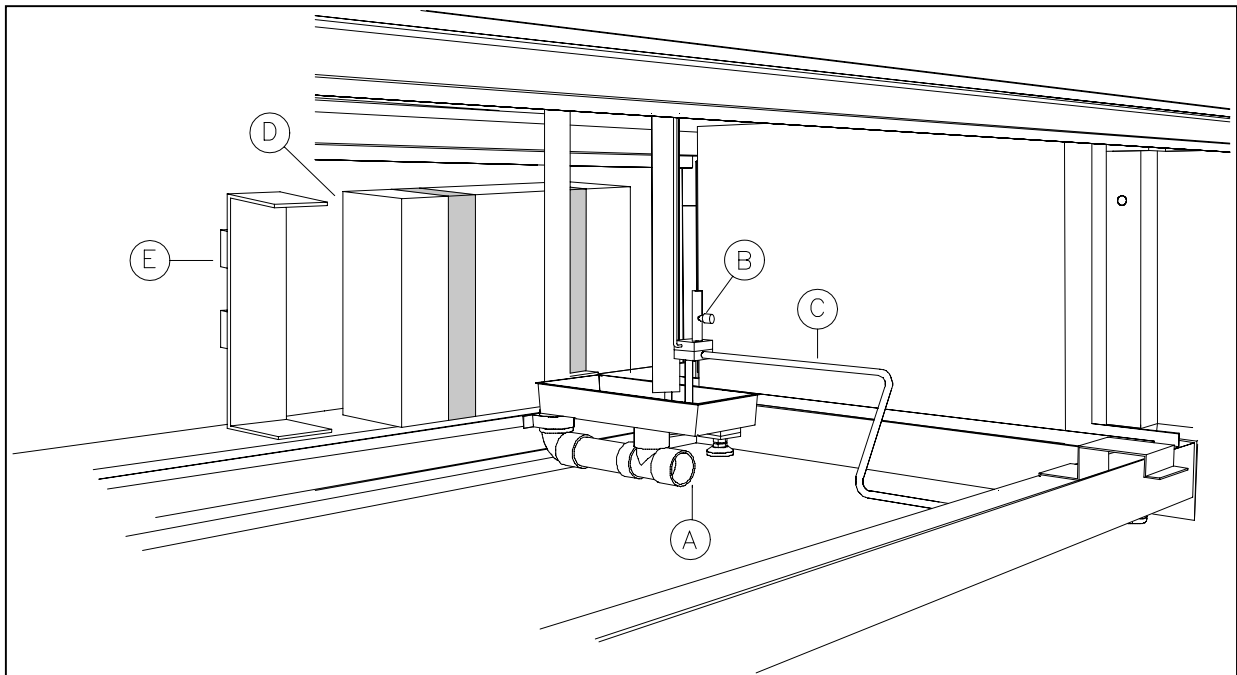
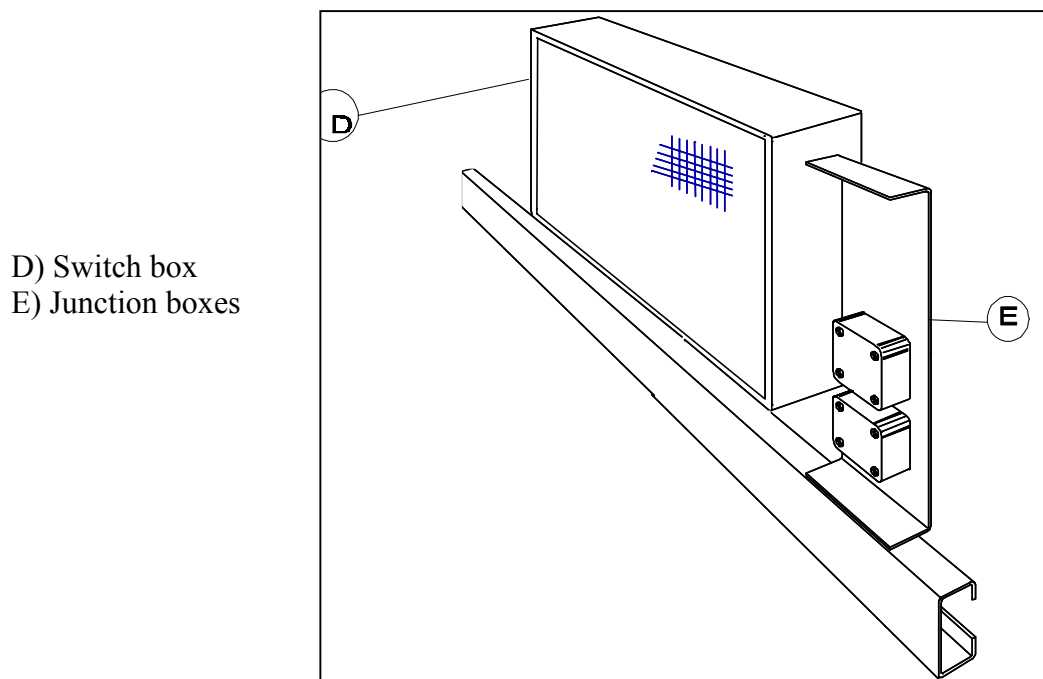

Figure 19
Figure 20
- Connection point for cooling pipes (figure 19, point C);
- Connection point for electricity (see figure 19 and figure 20, point E);
- Connection points for water supply and drainage (see figure 19; point A is drainage);
- Refrigeration system control equipment (expansion valve(s), solenoid valve(s), suction pressure regulator (see figure 19, point B);
- Main switch box (see figure 19 and figure 20, point D);
Once the decorative panel has been removed, the various parts in the service compartment are easily accessible (see figure 19 and figure 20).